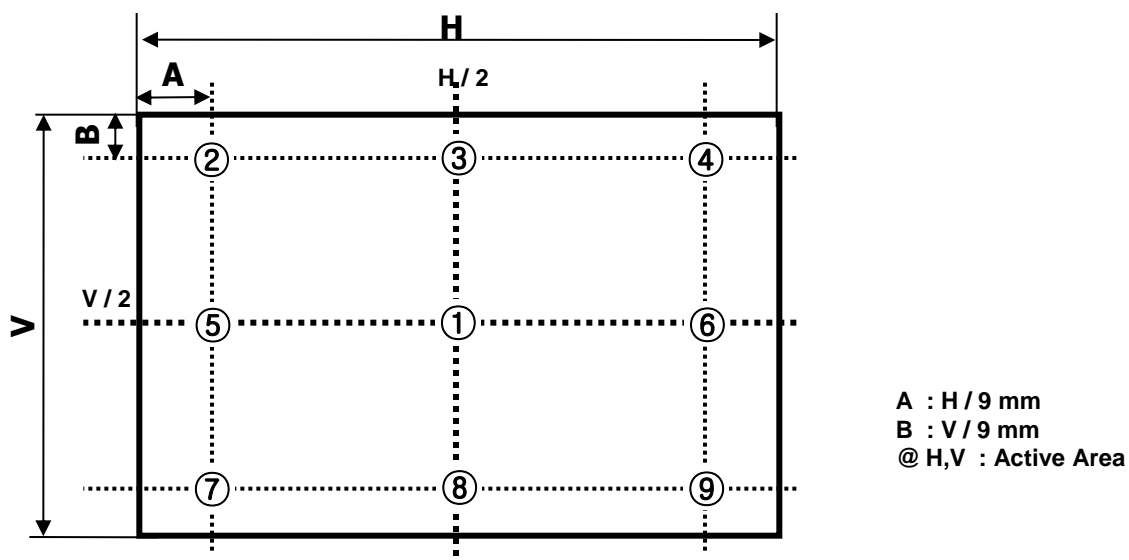

FIG. 3 9 Points for Luminance Measure
2. Surface luminance are determined after the unit has been 'ON' and 1 Hour after lighting the backlight in a dark environment at  $25 \pm 2^\circ\text{C}$ . Surface luminance is the luminance value at center 1-point across the LCD surface 50cm from the surface with all pixels displaying white. For more information see the FIG. 3.
For more information, see the FIG. 3.